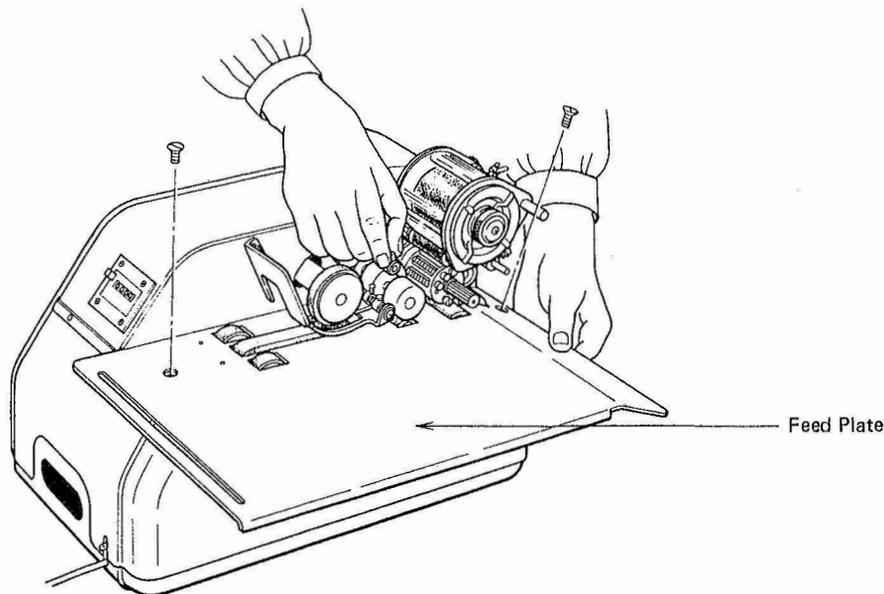

Fig. 18
- c. Refer to Figure 18, and raise the Separating Roller with the Adjustment Knob turned CW as far as it goes. Lift up the Trip Finger with your right hand and pull the Feed Plate to the left with your left hand.